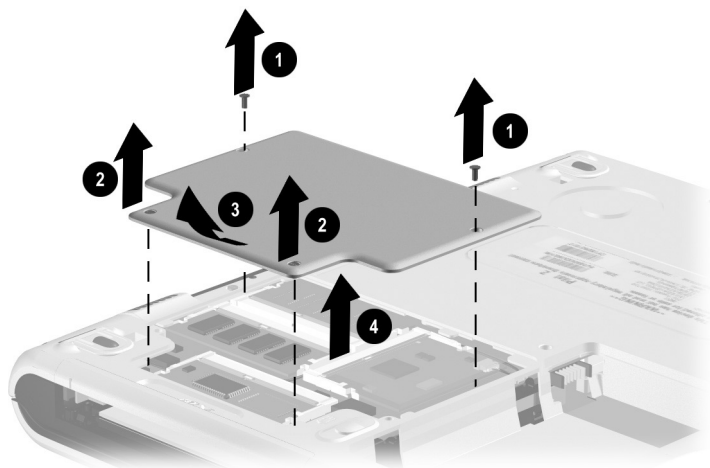

Figure 5-7. Removing the Expansion Cover
3. Remove the two PM2.0 × 5.5 screws ❶ that secure the expansion cover to the base enclosure (Figure 5-7).
4. Loosen the two Phillips screws ❷ that secure the expansion cover to the base enclosure.